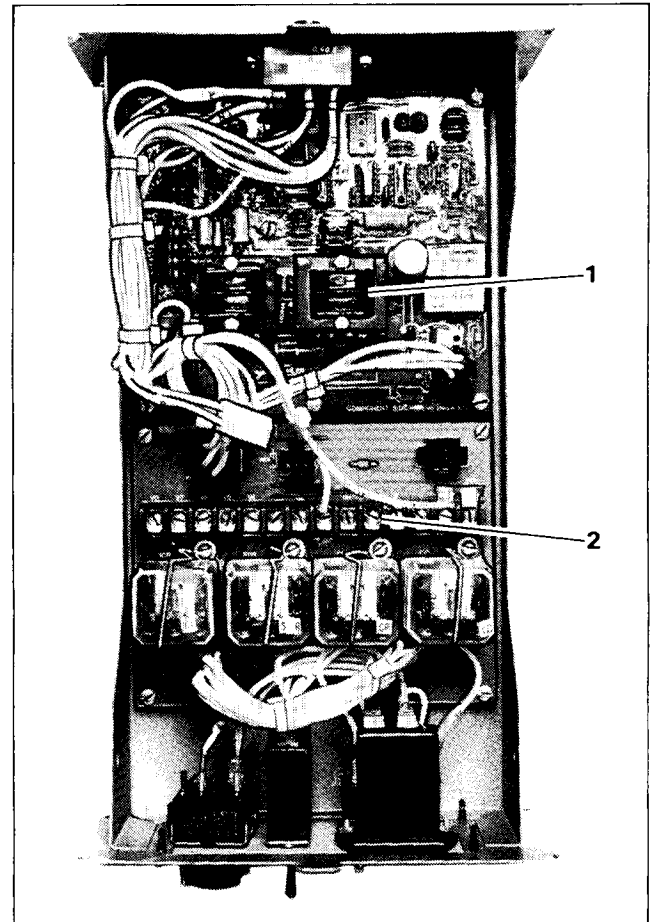

Figure 3-16. Regulator and Terminal Boards
5. Close switch to apply power; lamp should light. Adjust Pot. 2 to clockwise limit and observe maximum intensity of light. Adjusting Pot. 2 to counterclockwise limit will extinguish bulb. See Figures 3-16 and 3-17 for adjustment location.
1. Disconnect generator from load. Place generator main switch in OFF position. Lift enclosure cover to expose voltage regulator board and terminal strip. See Figure 3-16.